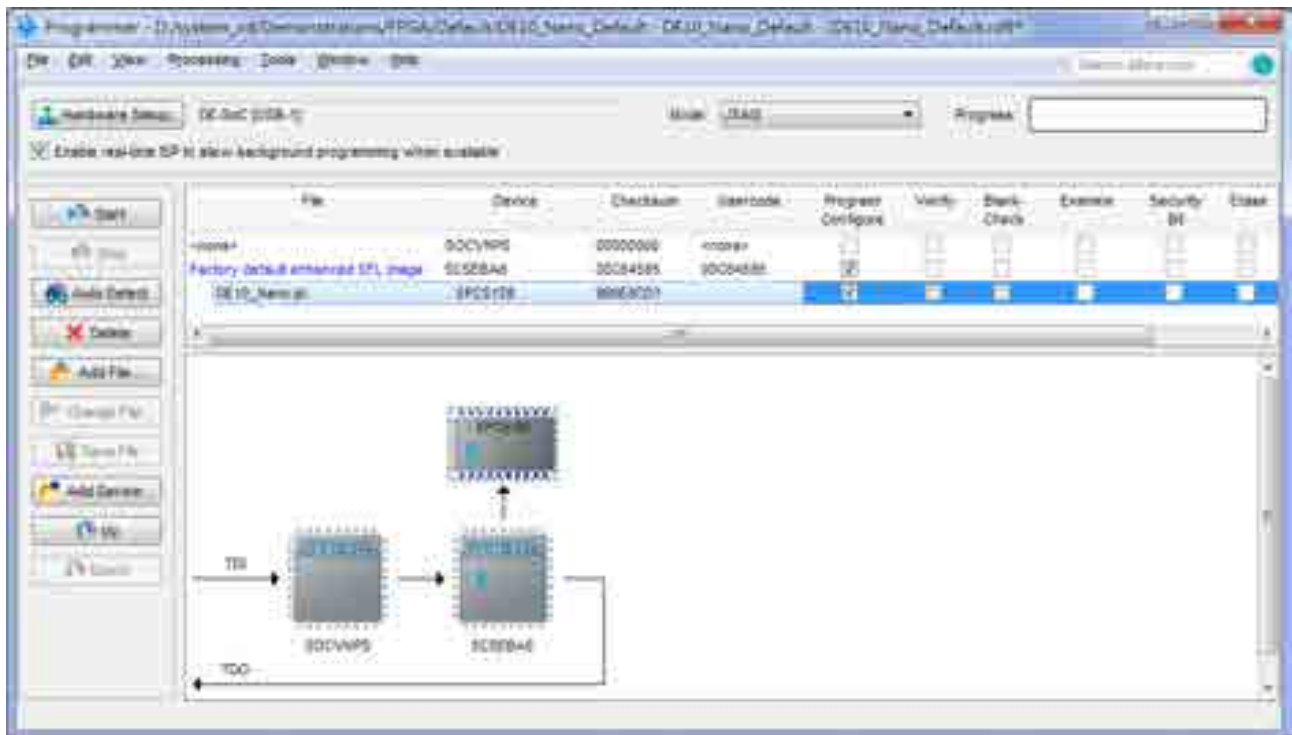

Figure 8-8 Quartus II programmer window with one .jic file
5. Program the EPCS device by clicking the corresponding **Program/Configure** box. A factory default SFL image will be loaded, as shown in **Figure 8-8**.